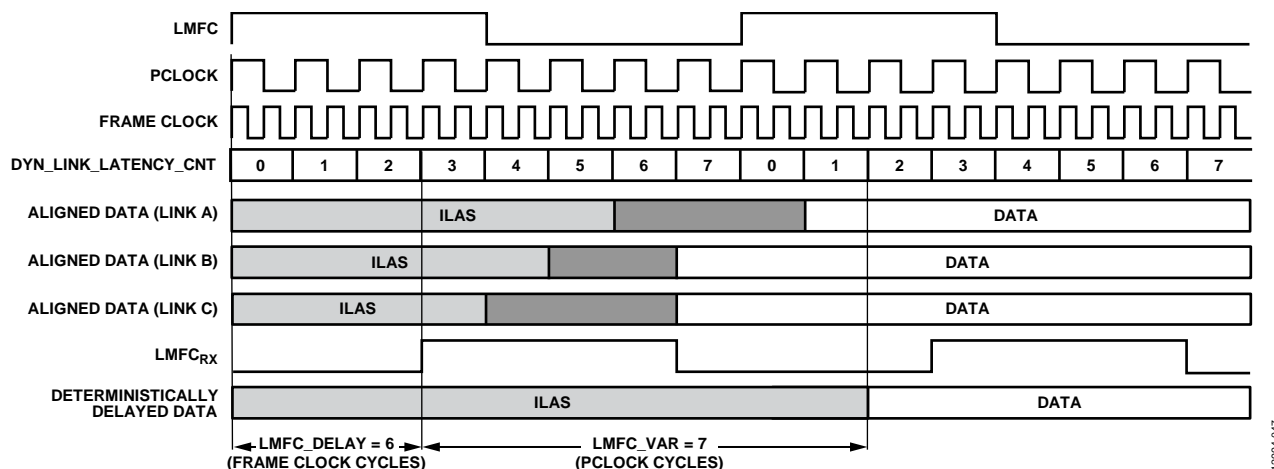

Figure 52. Multilink Synchronization Settings, Derived Method Example
Figure 52 shows how DYN\_LINK\_LATENCY\_0 (Register 0x302) provides a readback showing the delay (in PClock cycles) between LMFCRX and the transition from ILAS to the first data sample. By repeatedly power-cycling and taking this measurement, the minimum and maximum delays across power cycles can be determined and used to calculate LMFCVar and LMFCDel.
The example shown in Figure 52 is demonstrated in the following steps according to the procedure outlined in the Without Known Delays section. Note that this example is in Subclass 1 to achieve deterministic latency, which has a PClockFactor (frame clock rate/PClockRate) of 2 and uses K = 16; therefore PClocksPerMF = 8.
1. In Figure 52, for Link A, Link B, and Link C, the system containing the AD9152 (including the transmitter) is power cycled and configured 20 times. The AD9152 is configured as described in the Device Setup Guide. Because the point of this exercise is to determine LMFCDel and LMFCVar, the LMFCDel is programmed to 0 and DYN\_LINK\_LATENCY\_0 is read from Register 0x302.
The variation in the link latency over the 20 runs is shown in Figure 52 in gray.